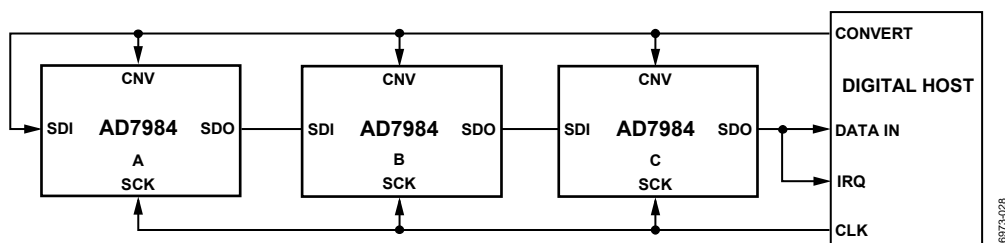
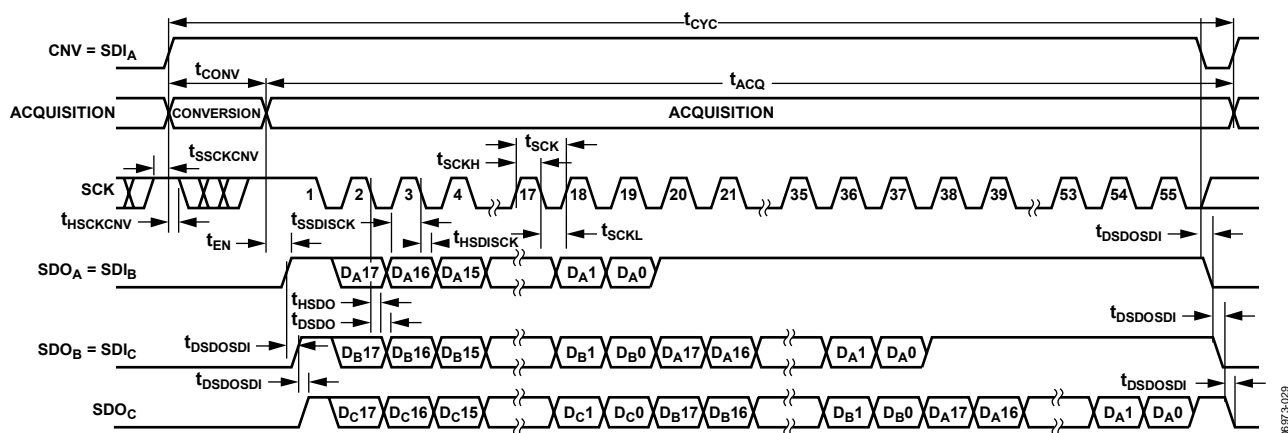

Figure 38. Chain Mode with Busy Indicator Connection Diagram
Figure 39. Chain Mode with Busy Indicator Serial Interface Timing
- In chain mode if SCK is high during the CNV rising edge (see Figure 39).
A connection diagram example using three AD7984s is shown in Figure 38, and the corresponding timing is given in Figure 39.
subsequent data readback. When all ADCs in the chain have completed their conversions, the SDO pin of the ADC closest to the digital host (see the AD7984 ADC labeled C in Figure 38) is driven high. This transition on SDO can be used as a busy indicator to trigger the data readback controlled by the digital host. The AD7984 then enters the acquisition phase and goes into standby mode. The data bits stored in the internal shift register are clocked out, MSB first, by subsequent SCK falling edges. For each ADC, SDI feeds the input of the internal shift register and is clocked by the SCK falling edge. Each ADC in the chain outputs its data MSB first, and  $18 \times N + 1$  clocks are required to read back the N ADCs. Although the rising edge can be used to capture the data, a digital host using the SCK falling edge allows a faster reading rate and, consequently, more AD7984s in the chain, provided the digital host has an acceptable hold time.